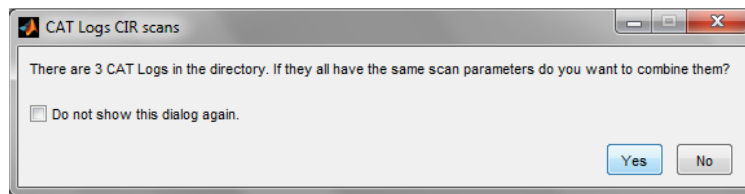

Fig. A-1: Combine screen
- IV. Once you have selected the logfile directory, CATCIR will examine the logfiles in the directory and confirm that they were all produced using the same parameters. It will then ask if you wish to combine them. See **Figure A-1**. If you click on Yes, CATCIR will process all of the waveforms in all of the logfiles. If you click on No, then CATCIR will process only the first logfile. Note that the “Do not show this dialog again” box has been disabled. Clicking or unclicking it has no effect on the program operation.